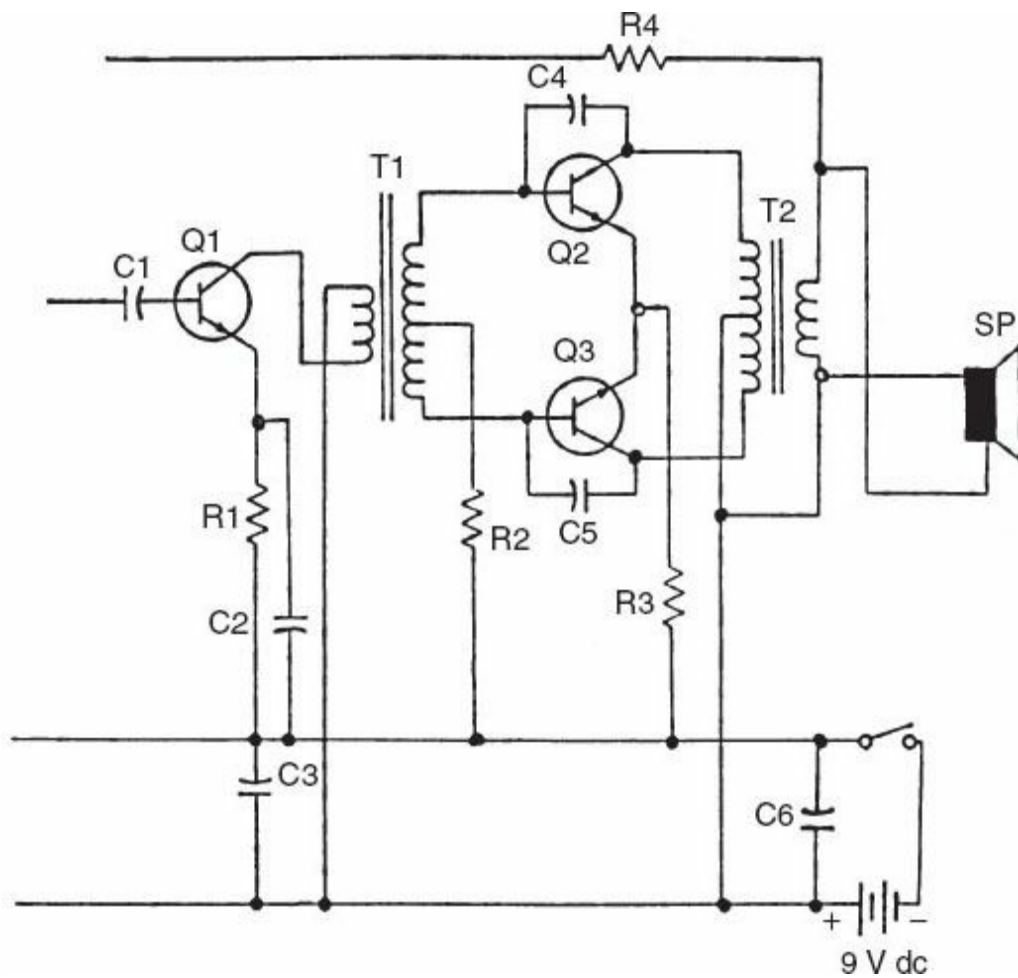

FIGURE 6.13 Typical push-pull amplifier.
Tape players, compact disc(CD) players, stereos, and other sound equipment require one or more amplifiers to increase the signal so that it can be heard in the speaker. Figure 6.13 illustrates a typical push-pull amplifier common to many types of sound equipment. Transistor Q1 is the driver stage for the push-pull amplifier. Capacitor C1 is a coupling capacitor that passes the signal to the driver from the preamp stage. Capacitor C2 and resistor R1 are the RC emitter network that properly biases the transistor for amplification. Transformer T1 splits the signal phase by 180° for Q1 and Q3. These two balanced transistors receive the signal alternately for each half-cycle, adding the total power together at the output. Capacitors C4 and C5 couple part of the collector signal back into the base of the transistor. This negative feedback prevents the transistors from oscillating and reduces distortion. Transformer T2 matches the impedance of Q2 and Q3 with the speaker. Capacitors C3 and C6 are filter capacitors used to isolate each section from stray, unwanted signals in the line.